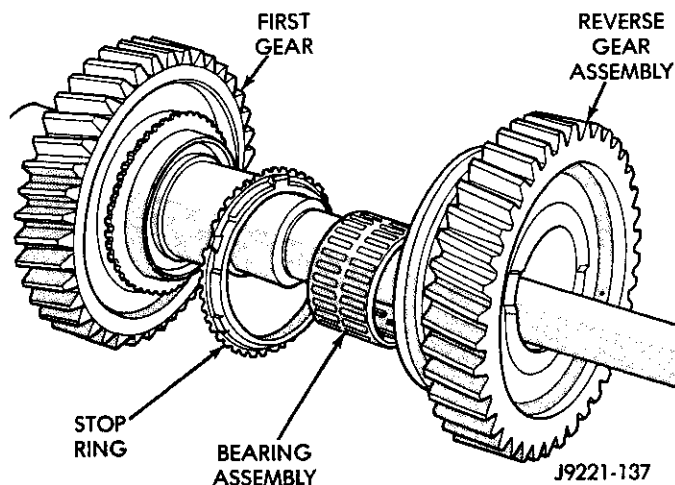

Fig. 70 Reverse Gear, Bearing And Stop Ring Removal
(28) Remove reverse gear synchro stop ring and clutch gear (Fig. 70).